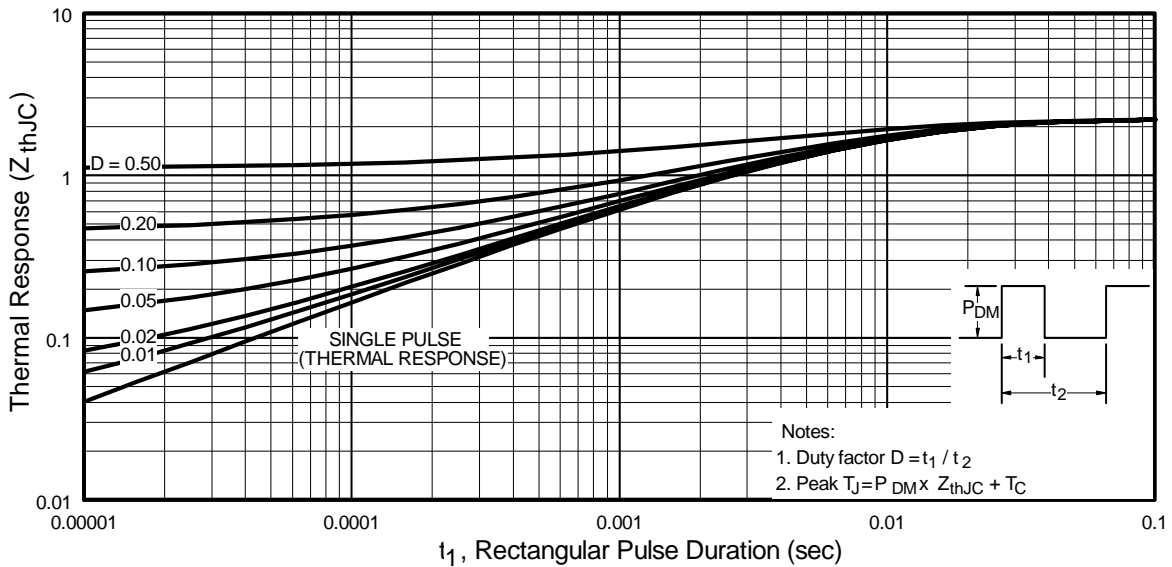

Fig 11. Maximum Effective Transient Thermal Impedance, Junction-to-Case
- Ⓛ Repetitive rating; pulse width limited by max. junction temperature. (See fig. 11)